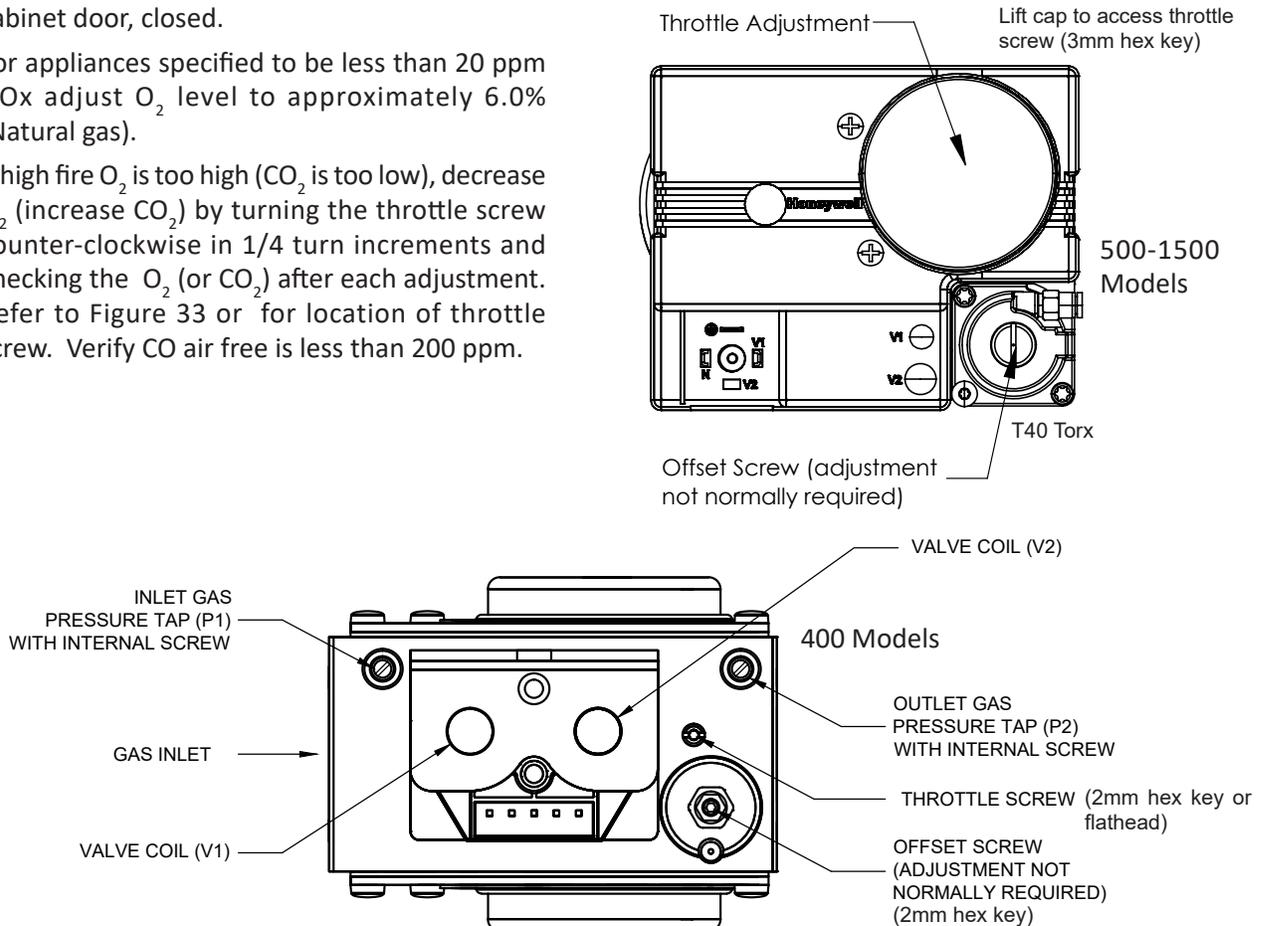

Figure 33: Gas Valve Adjustment
- d. If high fire O_2 is too high (CO_2 is too low), decrease O_2 (increase CO_2) by turning the throttle screw counter-clockwise in 1/4 turn increments and checking the O_2 (or CO_2) after each adjustment. Refer to Figure 33 or for location of throttle screw. Verify CO air free is less than 200 ppm.
- e. If high fire O_2 is too low (CO_2 is too high), increase O_2 (decrease CO_2) by turning the throttle screw clockwise in 1/4 turn increments and checking the O_2 (or CO_2) after each adjustment. Refer to Figure 33 for location of throttle screw. Verify CO air free is less than 200 ppm.